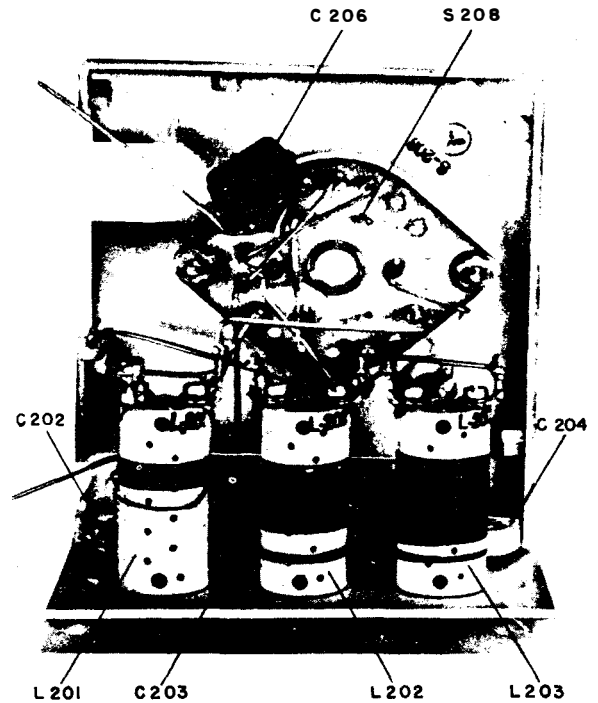

Figure 2-11 RF Assembly, Side View
a. R-F AMPLIFIER CIRCUIT. (See figures 2-11, 2-12.)—A type 12SK7 triple-grid amplifier tube is employed as the r-f amplifier V201. This r-f amplifier is coupled to the antenna through inductor L201, or L202, or L203, and the fixed capacitor C206. The BAND SWITCH section S208 selects the appropriate inductor to be used with each band of frequencies. The variable capacitor C201C tunes the r-f amplifier circuit and is one section of the three-section variable capacitor that